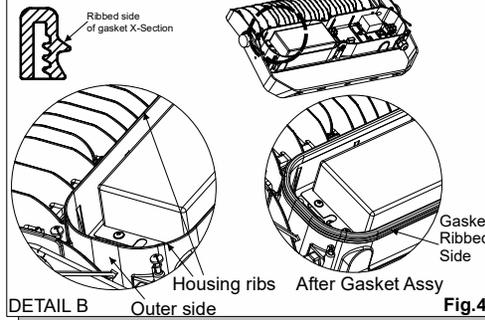

Fig.4
- 4.** Secure the Gasket on the housing ribs. Ensure ribbed side of gasket is on the outer side. (As shown in Fig 4) Place the Gear Cover on the housing matching the profile of gasket.